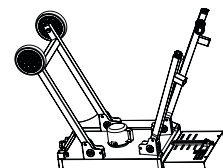

FIG. 17
4. Put the grill on its back and fold in the legs as shown in Fig. 17, 18 and 19.